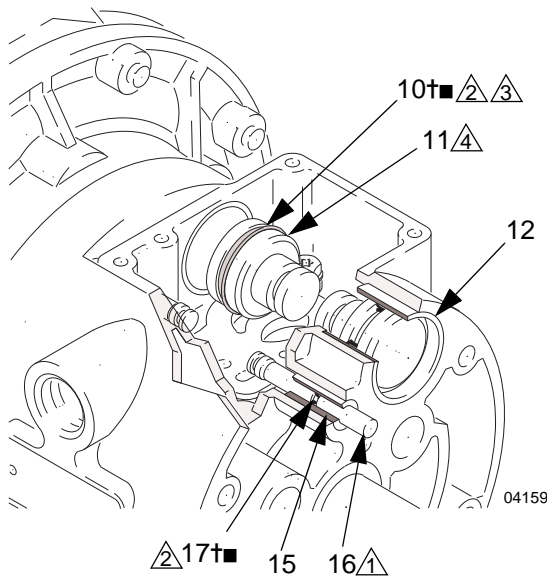

Fig. 9
4. Pull the two actuator pistons (11) out of the bearings (12). Remove the u-cup packings (10) from the pistons. Pull the pilot pins (16) out of the bearings (15). Remove the o-rings (17) from the push pins. See Fig. 9.
6. Inspect the bearings (12, 15) in place. See Fig. 9. The bearings are tapered and, if damaged, must be removed from the outside. This requires disassembly of the fluid section. See page 23.
4. Install an o-ring (17) on each pilot pin (16). Grease the pins and o-rings. Insert the pins into the bearings (15), **narrow** end first. See Fig. 9.
5. Install a u-cup packing (10) on each actuator piston (11), so the lips of the packings face the **narrow** end of the pistons. See Fig. 9.
6. Lubricate the u-cup packings (10) and actuator pistons (11). Insert the actuator pistons in the bearings (12), **wide** end first. Leave the narrow end of the pistons exposed. See Fig. 9.